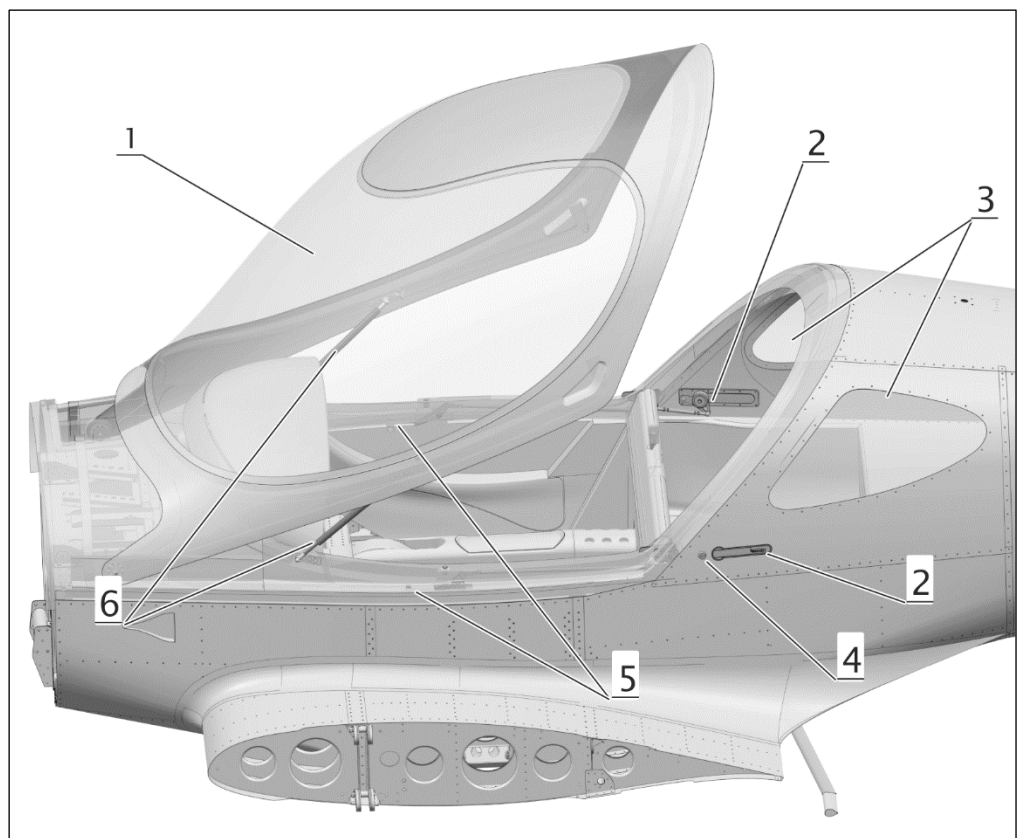

Figure 2 *Canopy and Rear Windows*
The canopy (see Figure 2) has a semi drop shape and enables access to the cockpit. The canopy consists of composite structure frame. The canopy is suspended in two swivel hinges on front sides of the composite fixed frame. The canopy can be opened forward and is lightened by a gas strut (6) each side which keep it in the opened position. The canopy outside handles (2) are placed on the fuselage sides below the rear cockpit windows (3). The inside handles (5) are installed inside the fixed frame.